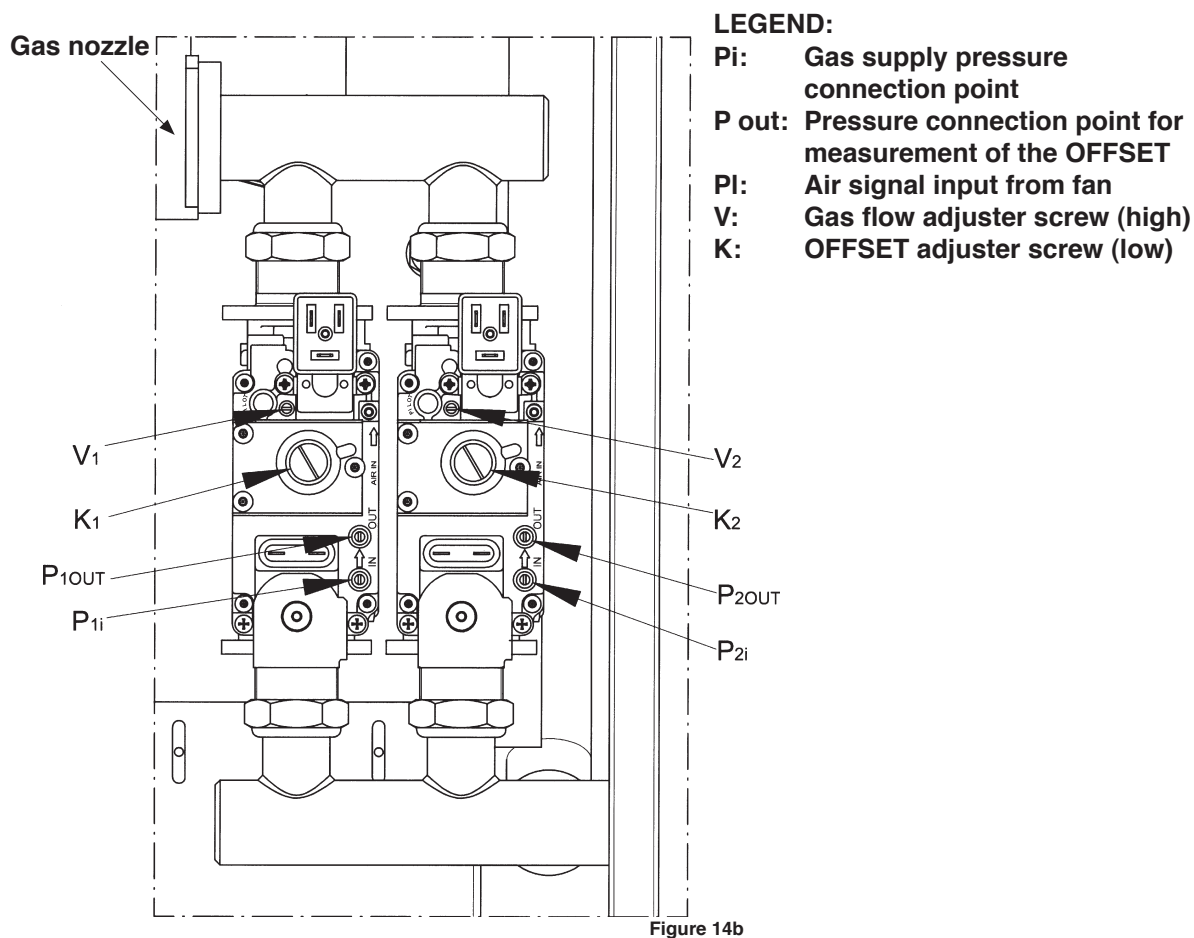

Figure 14b
13.2 DOUBLE GAS VALVE MODELS (FS 130 - 160) FIGURE 14b
- For models with two gas valves, replace the diaphragm located at the venturi inlet (figure 14b).